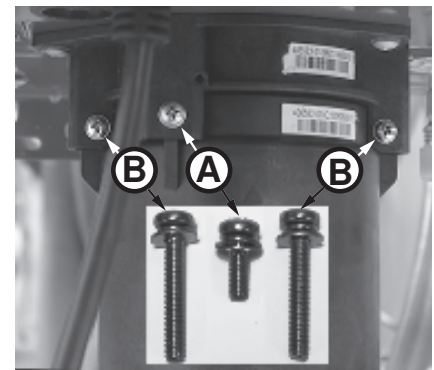

Figure 200 - Identify cartridge screws
- 5** Locate the three (3) screws securing the X3®/Bypass cartridge as shown in Figure 200. Remove the **A** M4-12mm screw and the two **B** M4-25mm screws from cartridge. Place screws aside in a safe place for reinstallation.